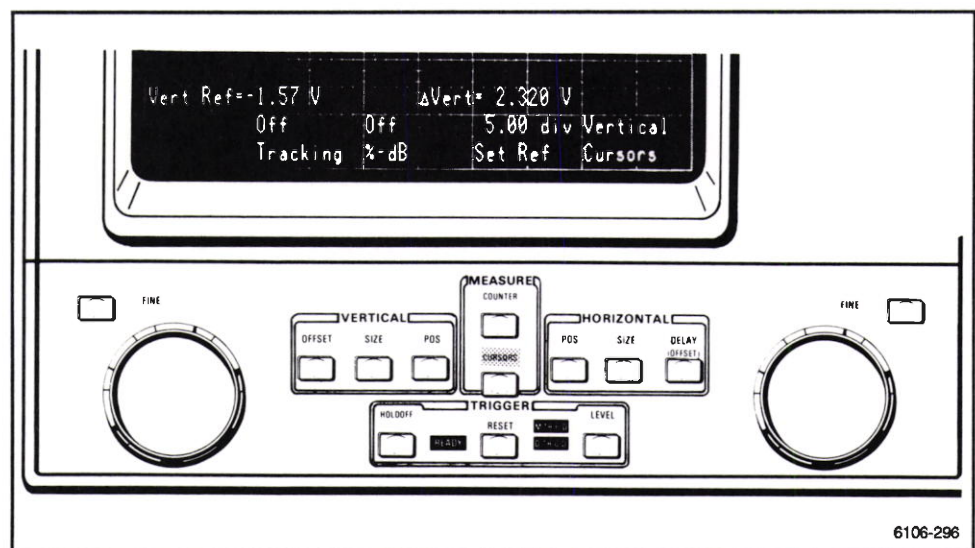

Figure 2-97. CURSORS menu after selecting vertical cursors.
4. Press the CURSOR button and select **Vertical Cursors** from the menu. Make sure that % dB and Tracking are **Off**. (See Fig. 2-97.)